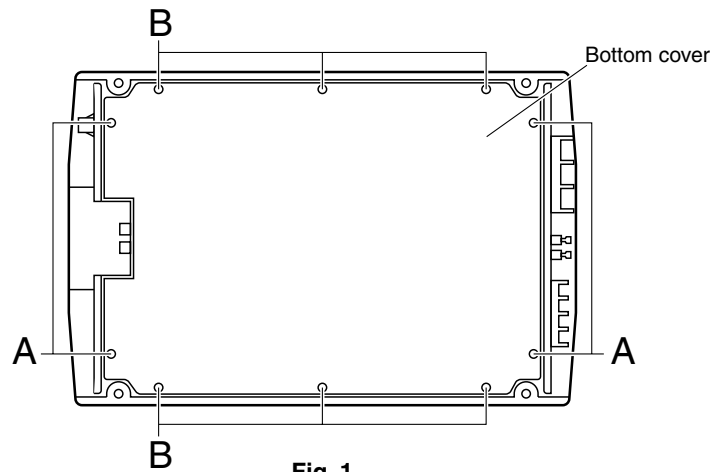

Fig. 1
■ Removing the bottom cover (see Fig. 1)